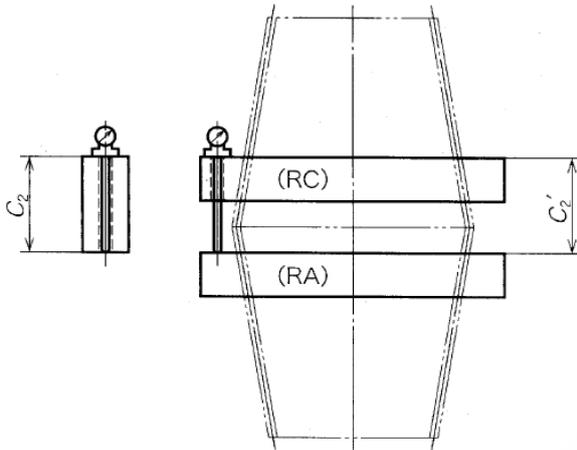

Figure 13 Combination of nipple pitch diameter measuring gauges
- a) **Measuring method** The value C_2 of a set block gauge shall be measured with a dial gauge. Then, ring gauges RA and RC are fitted with the specified clamping torque as given in figure 13, the space C_2' is measured, and the difference ΔC_2 between C_2' and C_2 is calculated. However, ΔC_2 may be directly measured in the measurement of C_2' by adjusting the scale of the dial gauge to zero point in the measurement of C_2 of the set block gauge.